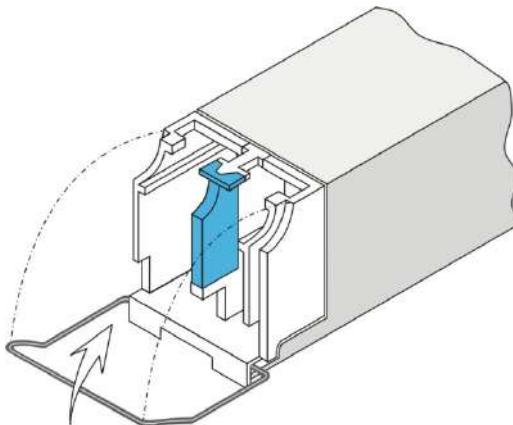

Figure 2-1. Locking the SFP Wire Latch
- Lock the wire latch of each SFP module by lifting it up until it clicks into place, as illustrated in *Figure 2-1*.